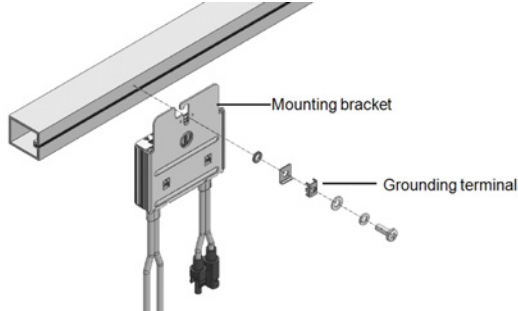

Figure 8: Power optimizer grounding terminal
- **For mounting on un-grounded structures** (such as a wooden structure): If the star washer or the plate cannot be used, use the SolarEdge grounding lug (purchased separately) with an equipment-grounding conductor according to the supplied instructions. The grounding terminal accepts a wire size of 6-14 AWG, and must be sized for equipment grounding per NEC 250.122 requirements. Tighten the screws connecting the power optimizer to the frame and the grounding terminal screw. Apply torque of 9.5 N*m / 7 lb*ft. See *Figure 8*